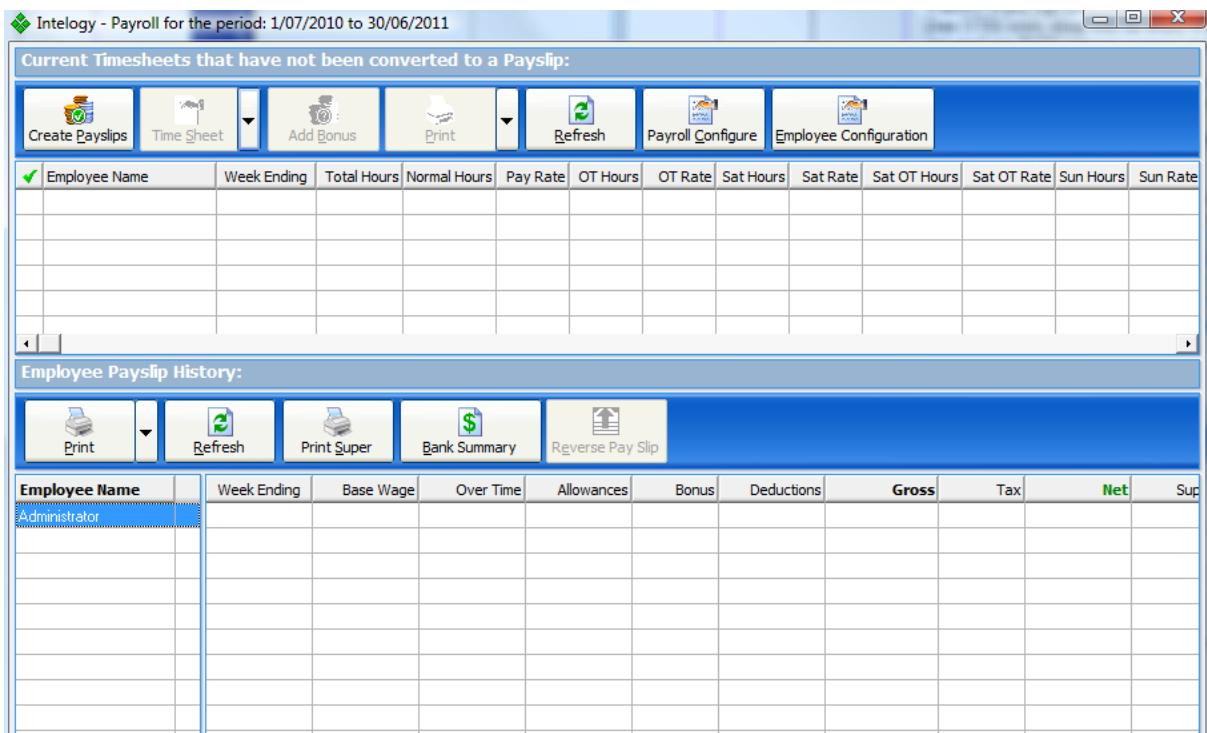

Figure 22.4 - Pay Slip Manager
1. From the Intelogy tool bar click the ‘Payroll’ button. You will be presented with the Pay Slip Manager screen as seen in figure 22.4.